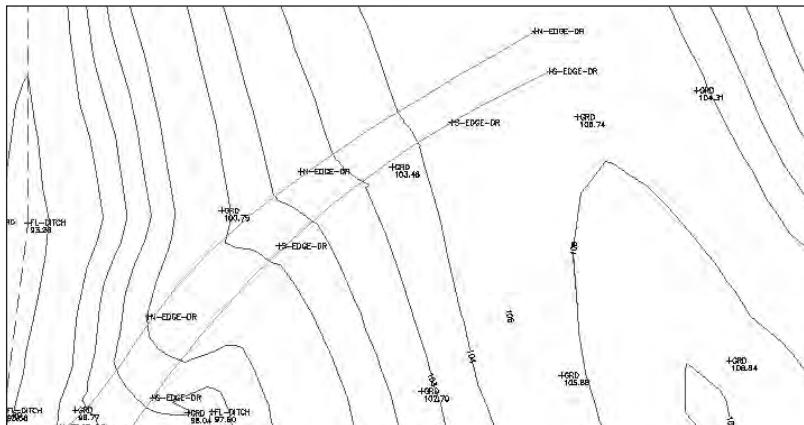

Figure 16-13: The topographical site map with a gravel road created by using the SPLINE command
3. If necessary, use **ZOOM Window** to zoom in to the area shown in Figure 16-13.